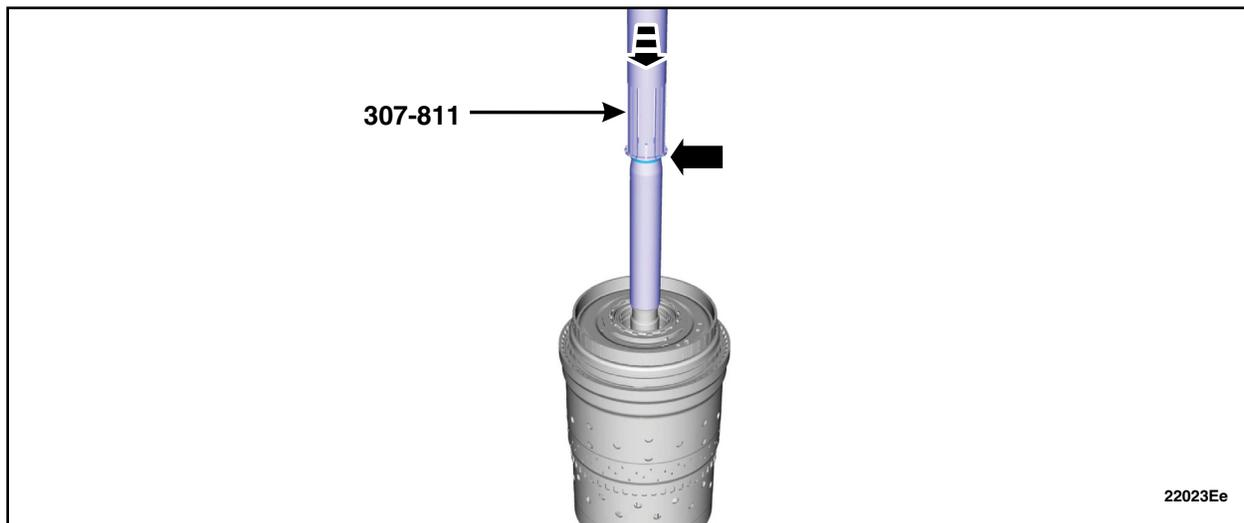

FIGURE 40
46. Using the top half of the Special Service Tool: 307-811 pusher & sizer, F2 Seal guide, slide the Teflon® seal into the groove. Remove the special tools and repeat the steps for the other 6 Teflon® seals. See Figure 40.